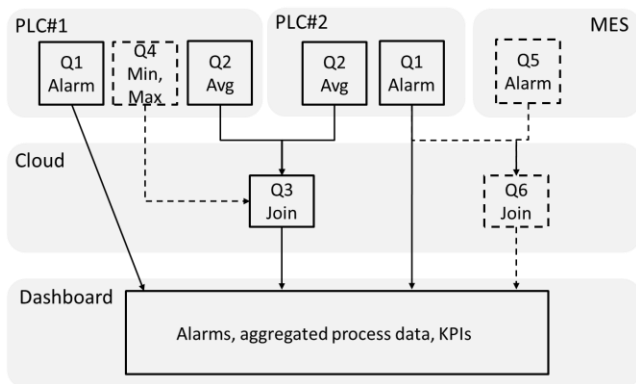

Figure 5: query plan
Sending all readings to the backend system is not an option (for bandwidth reasons), so the data is aggregated, pre-filtered and resampled directly on the PLCs using JStreams. On each PLC, we run two queries: (1) filtering alarm and (2) aggregating over a time window. Both queries are taking the power signal as input. The alarm filtering query checks the power input for power drops (where value < threshold) and the aggregation query calculates the average over a one second time window of the power signal. In the cloud (backend), we run a correlation query to get a global view of the energy consumption in our shop floor (see Figure 5).